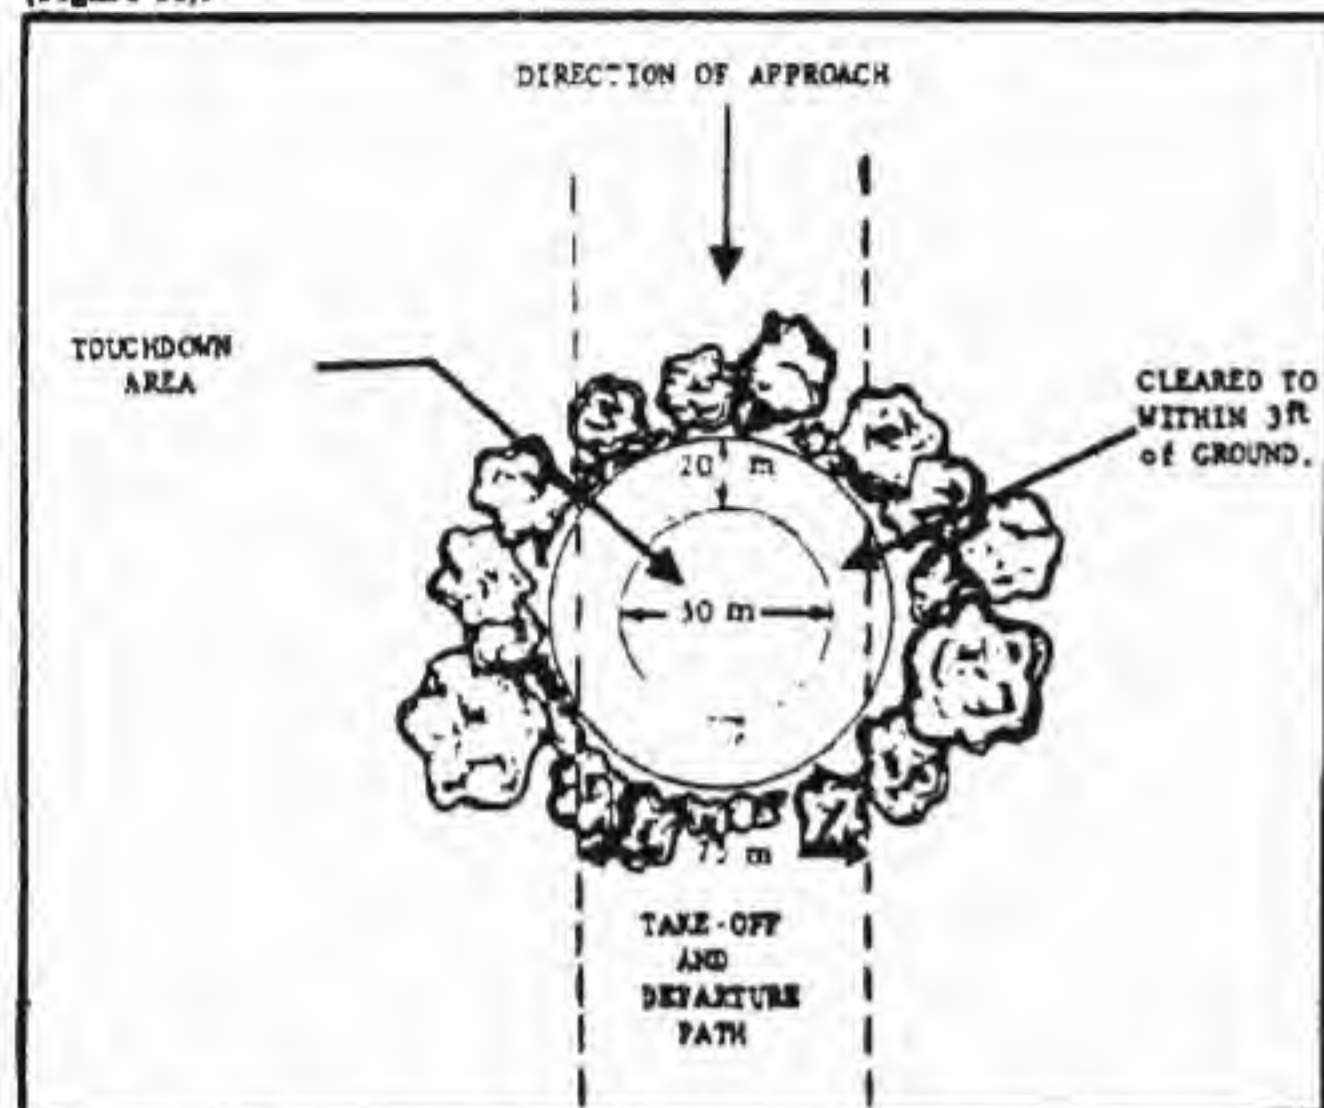

Figure 15. Landing Zone for Rotary-Wing Aircraft.
- (1) An area of 50 meters in diameter cleared to the ground.
- (2) An area beyond this, surrounding the cleared area, 20 meters wide and cleared to within 3 feet of the ground.
- (3) The completed LZ is thus a minimum of 90 meters in diameter (Figure 15).